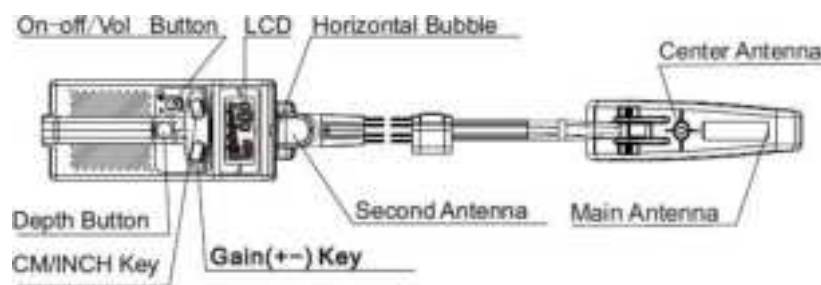

Figure 17
f. Control panel and antenna (see Figure 17)